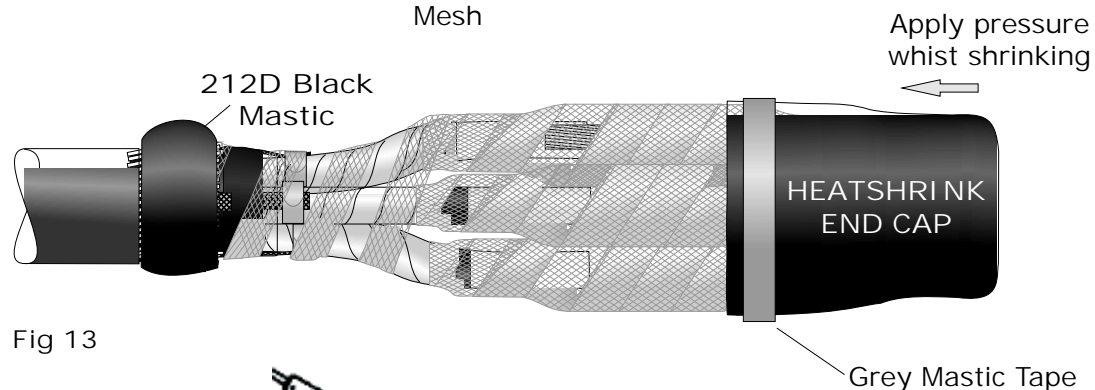

Fig 13
18. Position large cable end cap as shown (Fig 13).
19. Apply a band of the grey mastic tape approx 50mm from the end of the tube as shown in Fig 13.